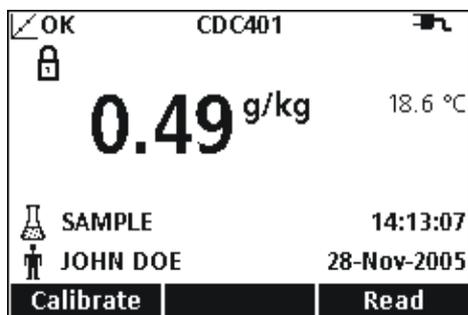
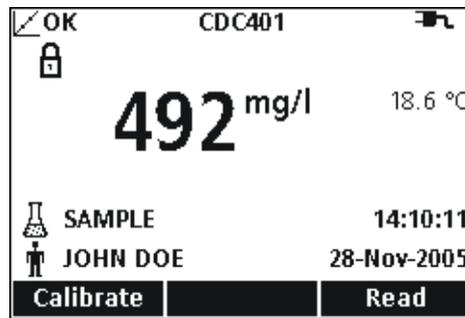

Figure 17 Example of Conductivity Measurement Displayed in Salinity Units
Figure 18 Example of Conductivity Measurement Displayed in TDS Units
- This screen is an example of a conductivity measurement displayed in conductivity units. Repeat this procedure to take additional measurements. See Figure 17 on page 64, Figure 18 , and Figure 19 on page 65.